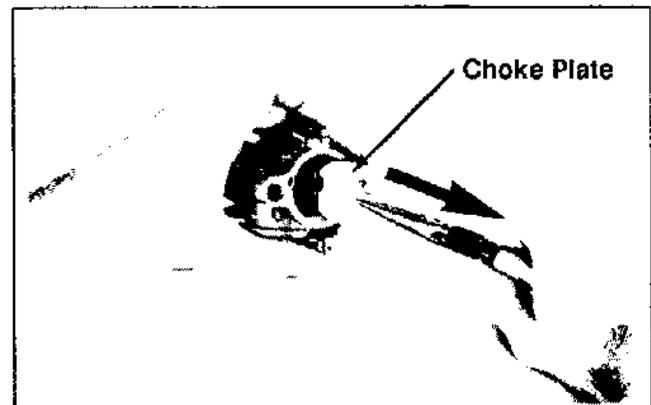

Figure 5-6. Removing Choke Plate.
2. Grasp the choke plate with a pliers. Pull it out of the slot in the choke shaft. See Figure 5-6.